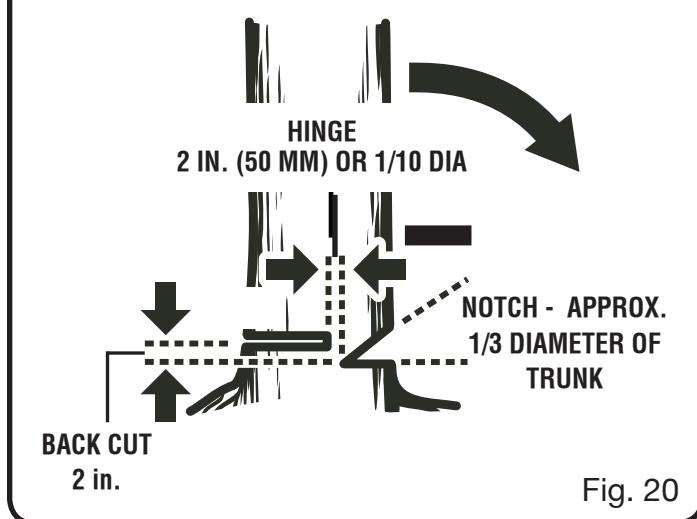

Fig. 20
- **Notched Undercut.** Cut a notch about $\frac{1}{3}$ the diameter of the tree as shown in figure 20. Make the cuts of the notch so they intersect at a right angle to the line of fall. This notch should be cleaned out to leave a straight line. To keep the weight of the wood off the saw, always make the lower cut of the notch before the upper cut. See *Figure 20*.
- **Felling Backcut.** The backcut is always made level and horizontal, and at a minimum of 2 in. above the horizontal cut of the notch. See *Figures 20 - 21*.
- Never cut through to the notch. Always leave a band of wood between the notch and backcut (approximately 2 in. or $\frac{1}{10}$ the diameter of the tree). This is called "hinge" or "hingewood." It controls the fall of the tree and prevents slipping or twisting or shoot-back of the tree off the stump. See *Figures 20 - 21*.